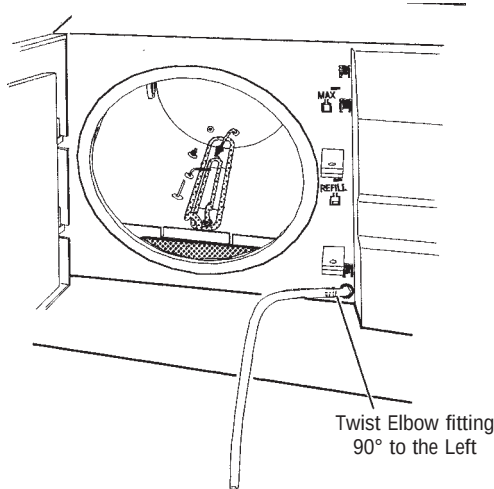

Figure 5-4a
2. Drain the reservoir by opening the chamber door and removing the water level tube from its holders, then twist elbow fitting 90° to the left (Figure 5-4a). With forefinger covering the end of tube, lower tube into the container to drain the reservoir.